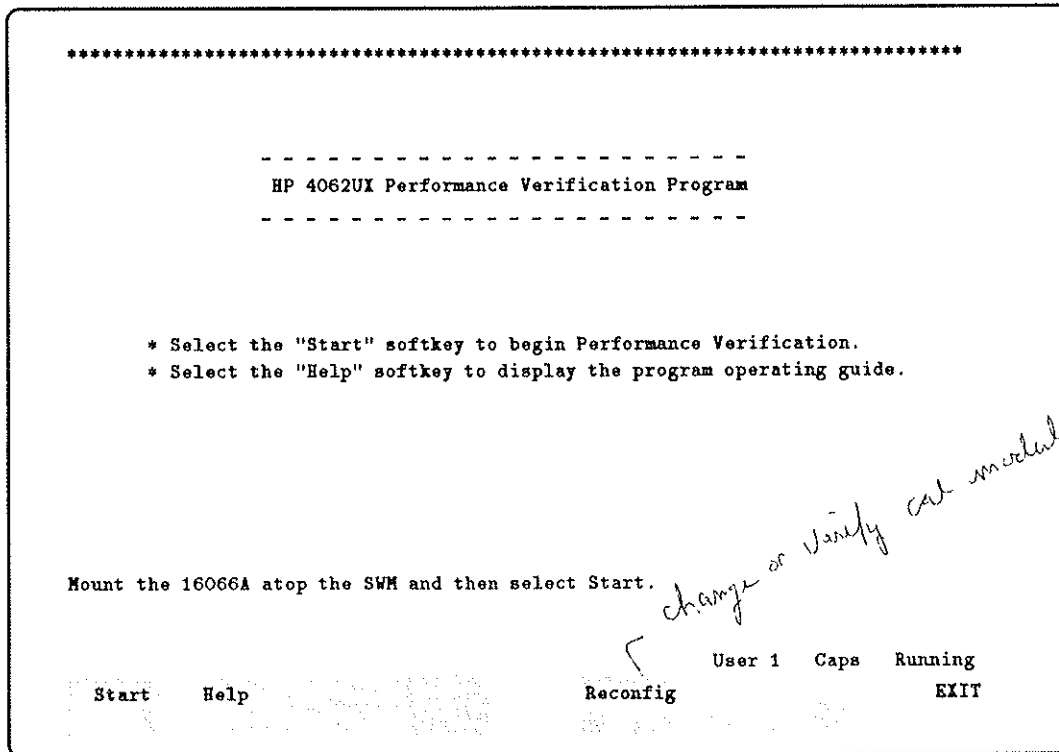

Figure 2-4. 4062 W/O DVM Test Start-up Menu Page
4. When START is finished, the program displays the start-up menu page as shown in Figure 2-4. For the HP 4062C, "HP 4062C" is displayed instead of "HP 4062UX." This rule applies to the following pages.